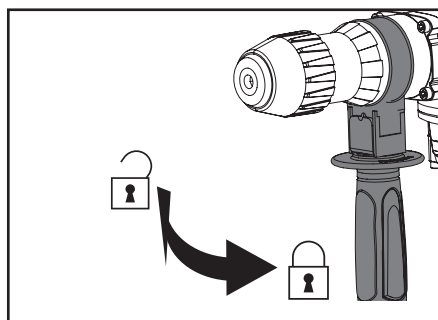

Fig. 3
1. Turn the handle to loosen the collar and seat it into the grooves on the neck of the hammer drill (see Fig. 3).
2. Properly secure the handle in the required position by turning it as shown in Fig. 3. Securing the handle in place will also secure the depth limit stop.